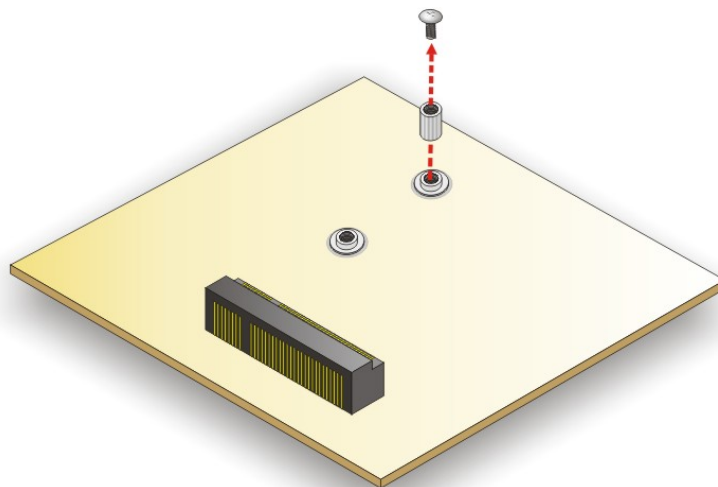

Figure 3-8: Removing Screw and Standoff
Step 4: Remove the retention screw and the standoff for the half-size PCIe Mini card as shown in **Figure 3-8**.